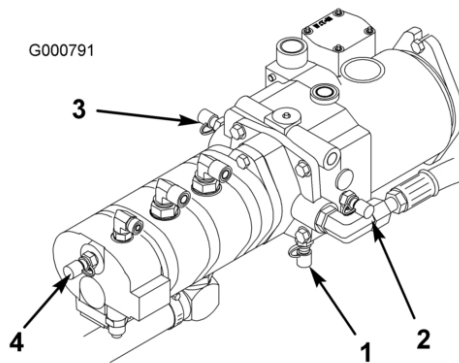

Figure 69
4. Test Port D is located on the bottom of the hydrostatic transmission (Figure 69) and is used to measure the charge pressure of the transmission.
5. Test Port E is used to measure traction forward pressure (Figure 69).
6. Test Port F is used to measure traction reverse pressure (Figure 69).
7. Test Port G is used to measure steering circuit pressure (Figure 69).